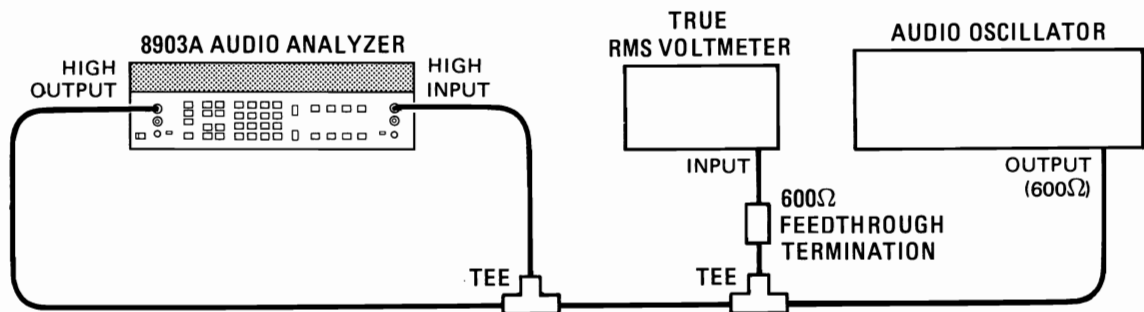

Figure 4-2. Distortion, SINAD, and Signal-to-Noise Accuracy Test Setup
2. Connect the equipment as shown in Figure 4-2. Set the voltmeter to read ac volts.